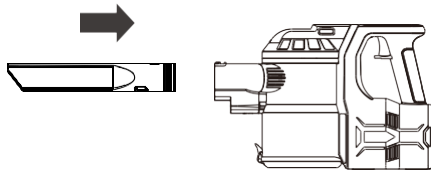

Figure 6 Flat suction nozzle
- Mode 1: Remove the crevice tool, press the button to release the accessory from the main case. (Figure 6)